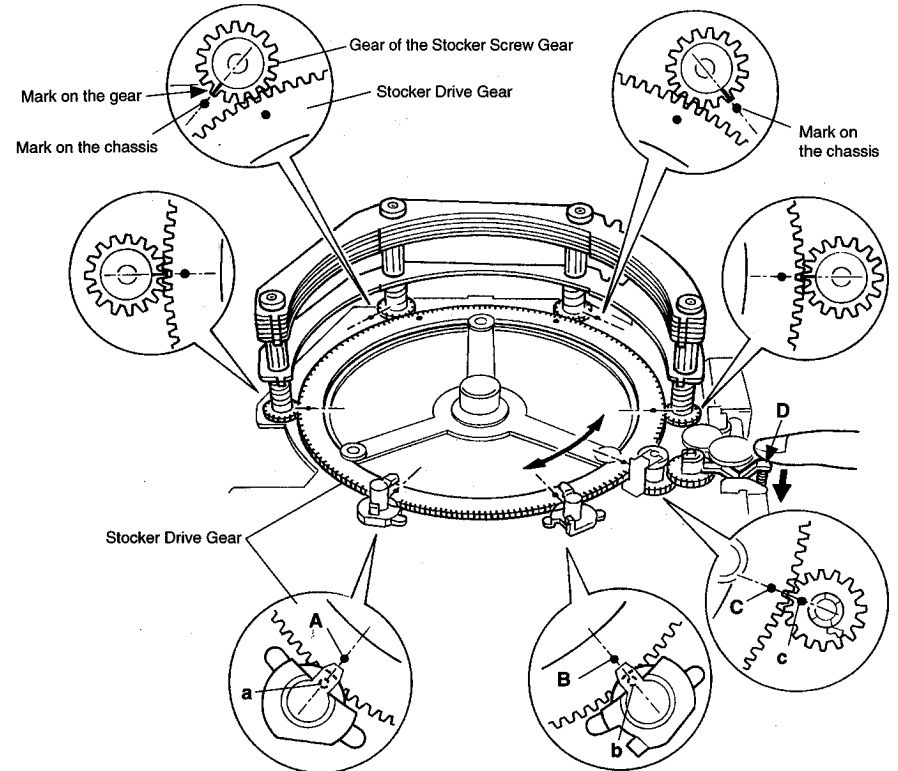

Fig. 2.10.3
- (2) When installing the Stoker Ass'y in the chassis, align the position of the gear of each Stoker Screw Gear as shown in Fig. 2.10.3.